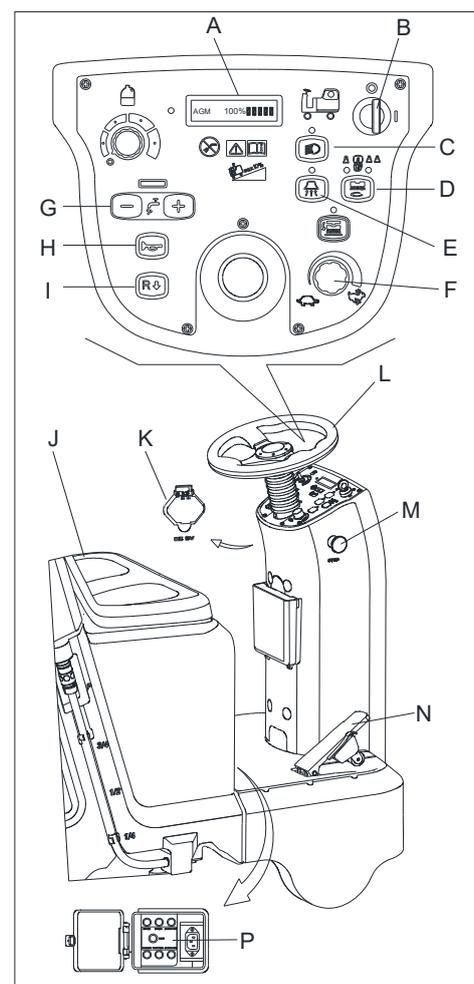

Figure 7
2. Sit on the seat (J, Figure7), insert the key switch (B) and turn it to “I”. If the LCD (A, Figure7) is 100%, the batteries are fully charged for use. If the LCD (A, Figure7) is 10%, batteries must be charged before operation. [Refer to MENTAINENCE chapters for batteries charging]
3. Press One-Start button (D, Figure7)to start the machine, the squeegee and brushes are released to the floor automatically, vacuum motor begins to work.
4. Depress the accelerate pedal (N Figure7), operate the machine forward or backward by steering wheel (L Figure7) together with forward-backward switch (I Figure7), you can adjust speed by speed adjusting knob (F Figure7).
5. Adjust solution flow by solution adjusting button (G Figure7) base on cleaning requirement.
6. You can charge your phone or pad through USB charging port (K Figure7) when the key switch (A Figure7) is turned to “ON”.
7. Press the horn button (H Figure7) to warn people when necessary.
8. If necessary, press the emergency button(M Figure7) for machine emergency stop.
The brush motor, vacuum motor, drive motor and control circuit are protected by overload protector (P Figure7). When the overload protector trip, do not reset it immediately without finding out the root cause, and make sure the motor is cooling-off before reset.
9. Loosen the accelerate pedal (N, Figure7), the machine stops running.
10. Press One-Start button (D, Figure7) to stop brushes and vacuum motor. The brushes and squeegee are lifted up from the floor automatically. The vacuum system is closed after a few seconds delay.